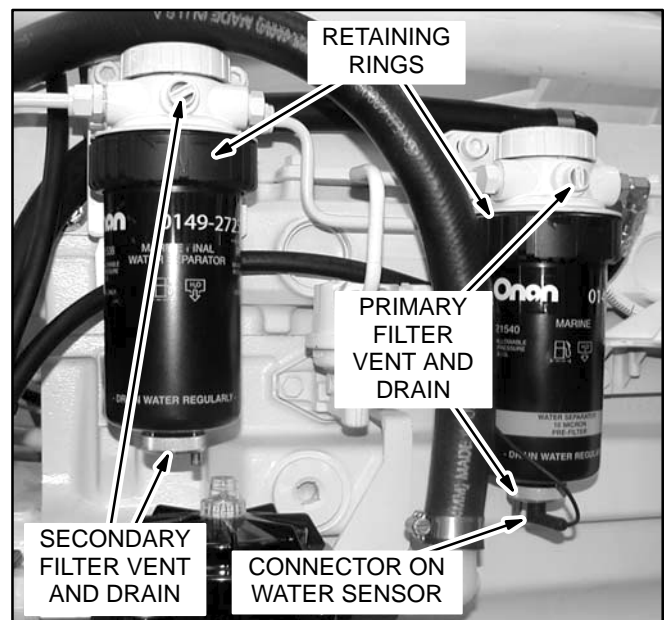

FIGURE 4-7. PRIMARY AND SECONDARY FUEL FILTERS
See Table 4-1 for scheduled filter change. The gen-set has a primary and a secondary fuel filter. The primary filter has a water separator and sensor (Figure 4-7). Check for up-stream filters which may also need to be replaced.
1. Disconnect the water sensor connector (Figure 4-7). Loosen the vent and drain screws and drain the water and sediment into a suitable container (about 1/2 cup or 120 ml).